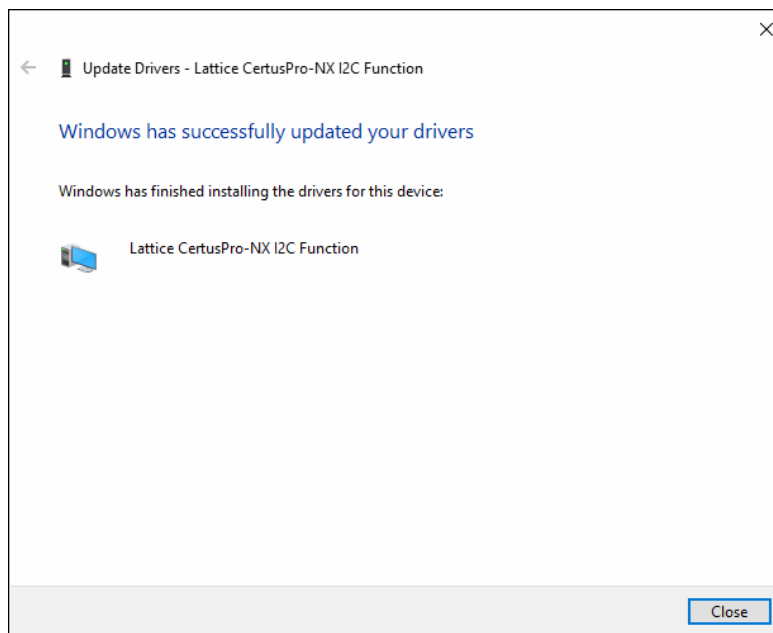

Figure 5.29. I2C Driver Installation Status Message for MachXO5-NX using LFMXO5-65T Device
8. If the driver is installed successfully, a message is displayed as shown in Figure 5.29.